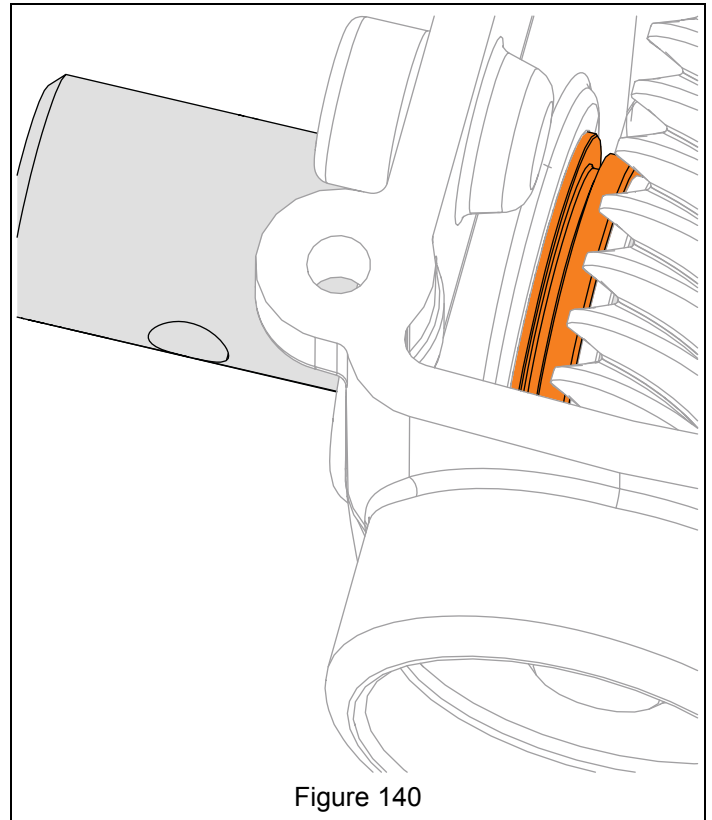

Figure 140
15. With a driver, such as a 1 1/4" deep-well socket, drive bushing into gearcase until groove is just beyond interior gearcase wall. See Figure 140.